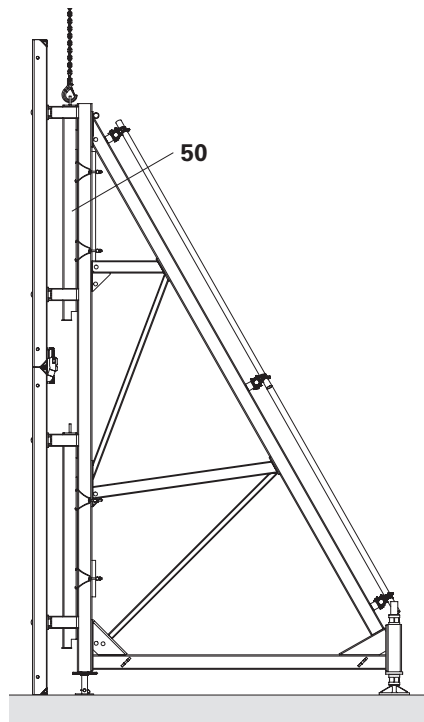

Fig. C2.01
Always attach to the Connection Rail SB-2/TR,MX,D (50). (Fig. C2.01)